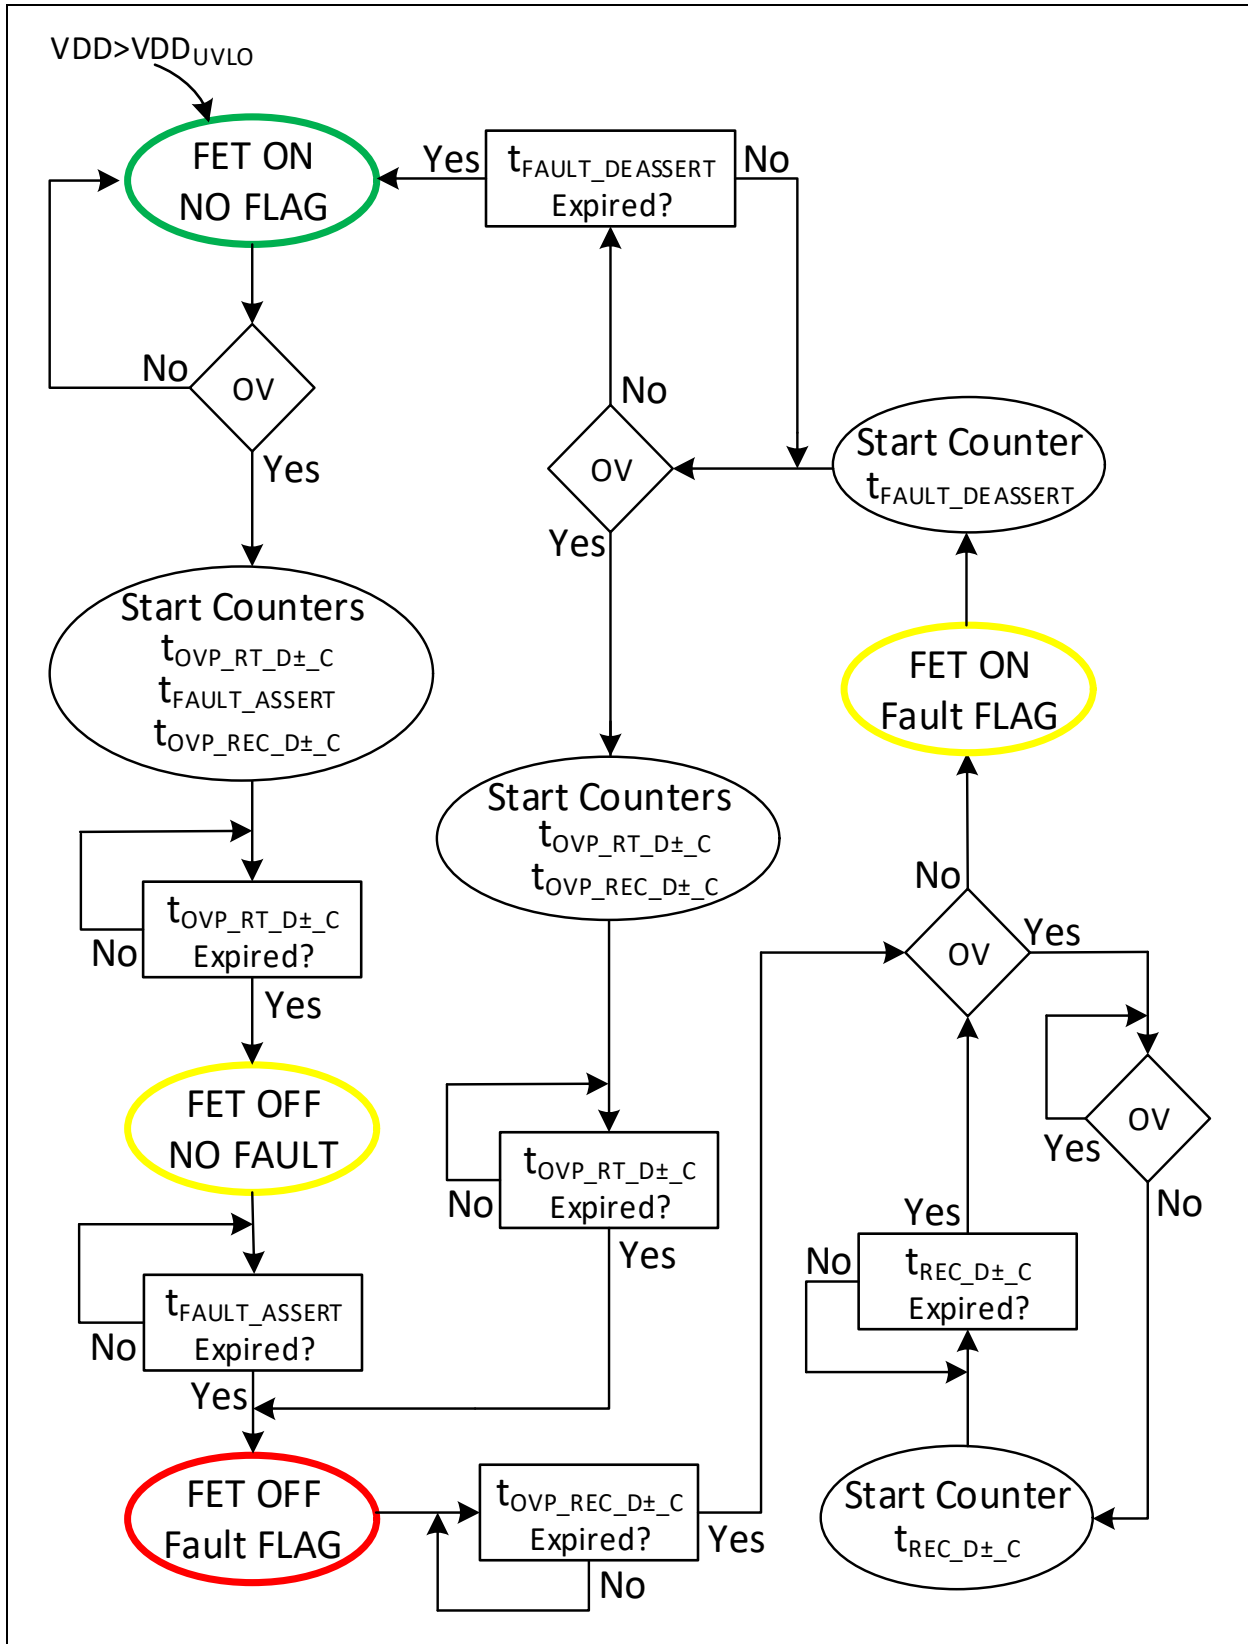

FIGURE 1-6: D+, D- Fault Flow Chart.
- Overvoltage (see Figure 1-6 for D+, D- example)